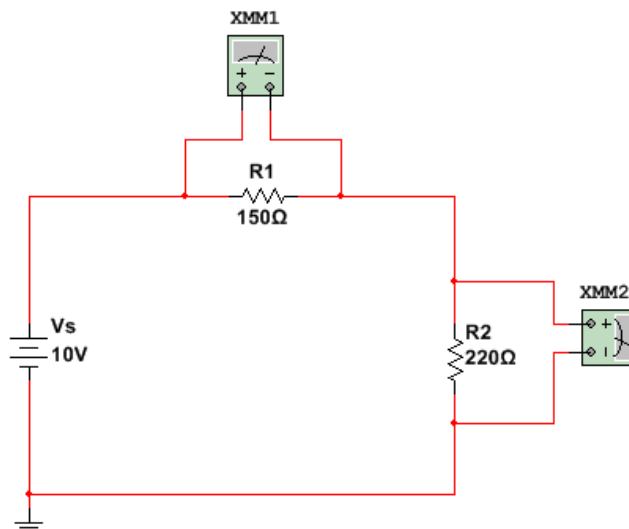
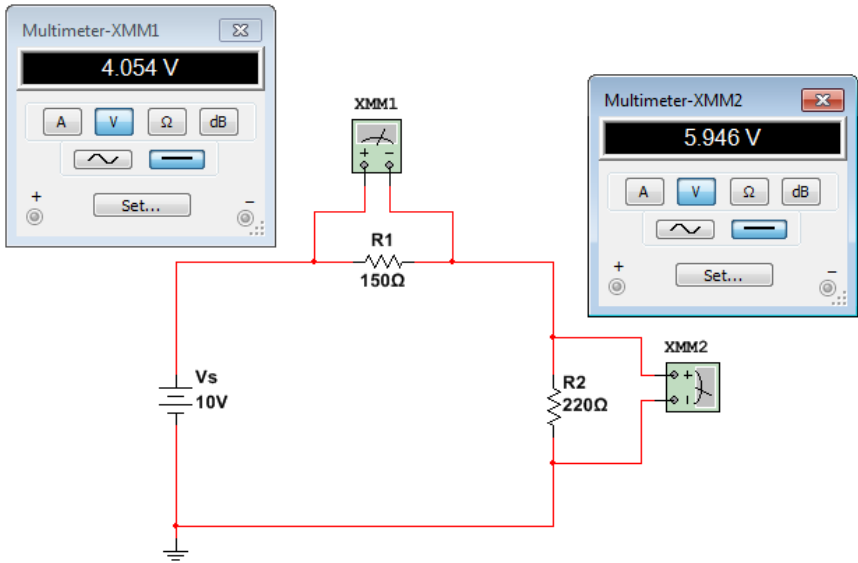

Figure 4.16 – To measure voltage across $R1$ and $R2$
Figure 4.17 – Voltage measurement across R1 and R2
- Attach the multimeter's probes in between two nodes of $R1$ and $R2$ respectively. Check Figure 4.16
- Since the circuit at Figure 4.16 is set to measure dc voltage, to do so, click on Voltmeter  to measure the voltage between two nodes. Check Figure 4.17.